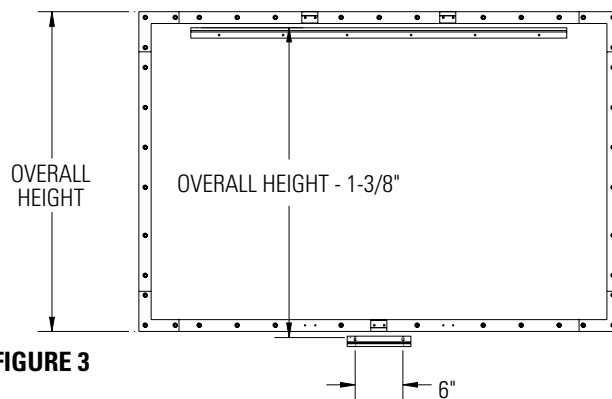

FIGURE 3
3. To install the small wall bracket, you must measure the overall height of the screen frame and subtract 1-3/8". Using that dimension, measure down from the top edge of the large wall bracket and mark the wall for two screw holes. The holes should be centered within the frame and 6" apart. Refer to Figure 3.